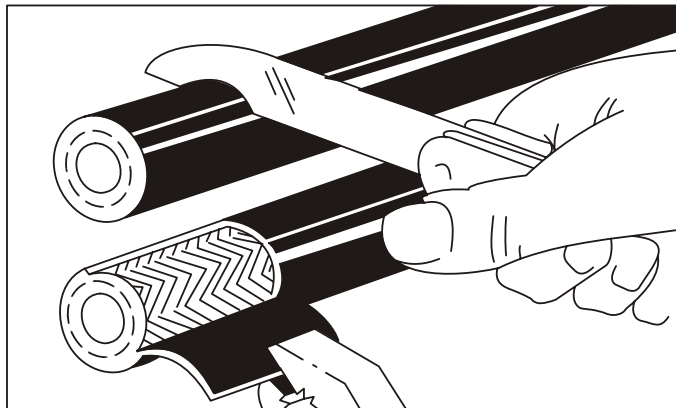

Figure 6 Cutting Hose Outer Cover
- g. Make one lengthwise cut to the depth of the braid, from the circular cut to the end of the hose (see Figure 6).